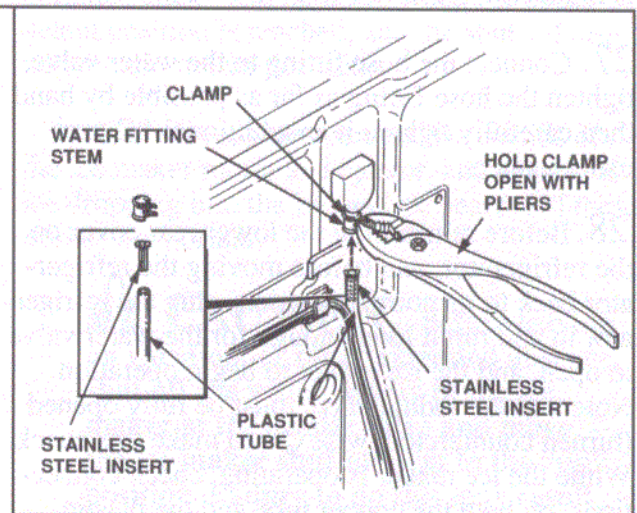

Figure 20
23. Slip the tube clamp over the stem of the water fitting (see Figure 20) and hold the clamp open using a pliers. Slip the tube end into the water fitting stem a distance of 5/8 to 3/4 inch and release the tube clamp. Check to make sure that the tube is held firmly in the water fitting stem by the clamp.